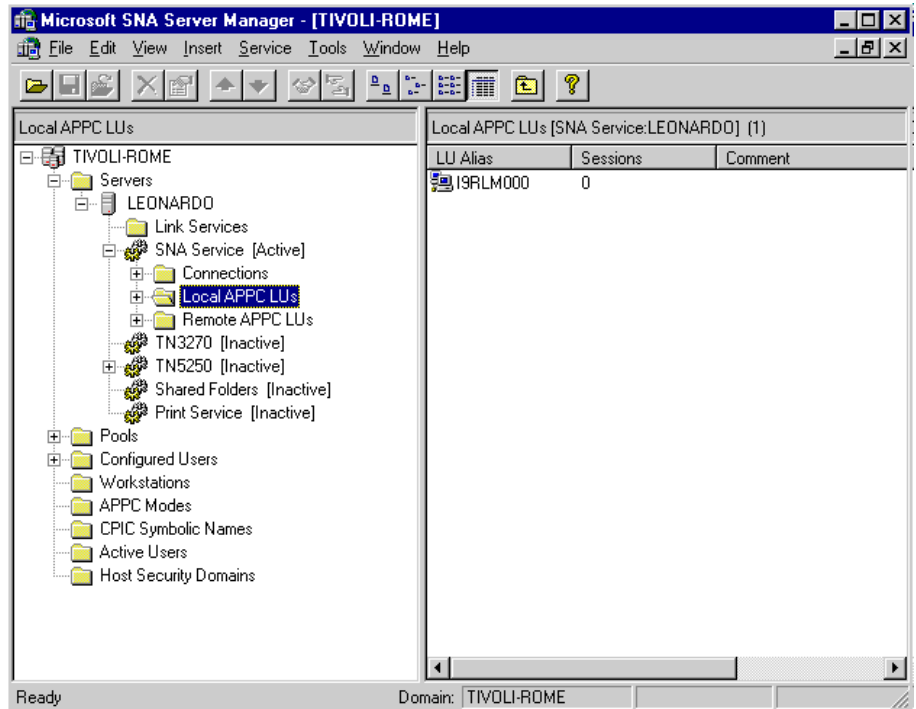

Figure 43. Selecting local APPC LUs
- 1 From the Microsoft SNA Server Manager window, select **Local APPC LUs**, as shown in Figure 43 on page 121.